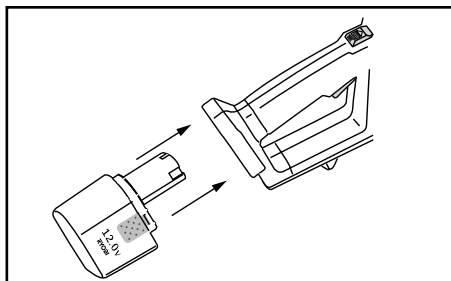

Fig. 6
1. Place battery in your grass shears. Align raised rib on battery with groove in grass shears housing (Fig. 6).